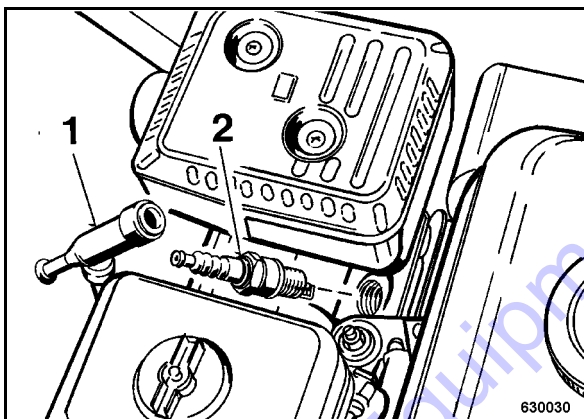

Fig. 52
- Pull off the spark plug socket (1) (Fig. 52) and unscrew the spark plug (2).